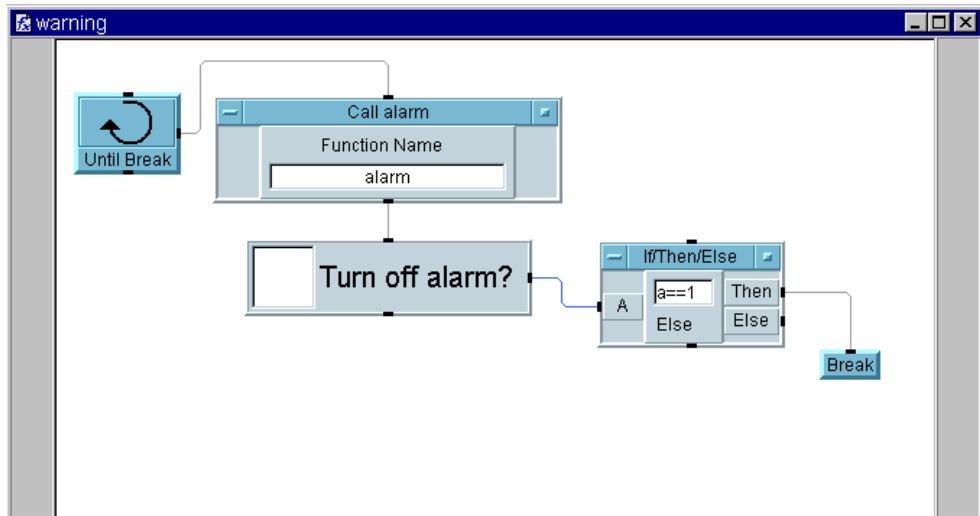

Figure 243 The Warning UserFunction (Detail View)
- 19 Select **Flow** ⇒ **Repeat** ⇒ **Break** and connect it to the **Then** output on the **If/Then/Else** object, as shown in Figure 243.